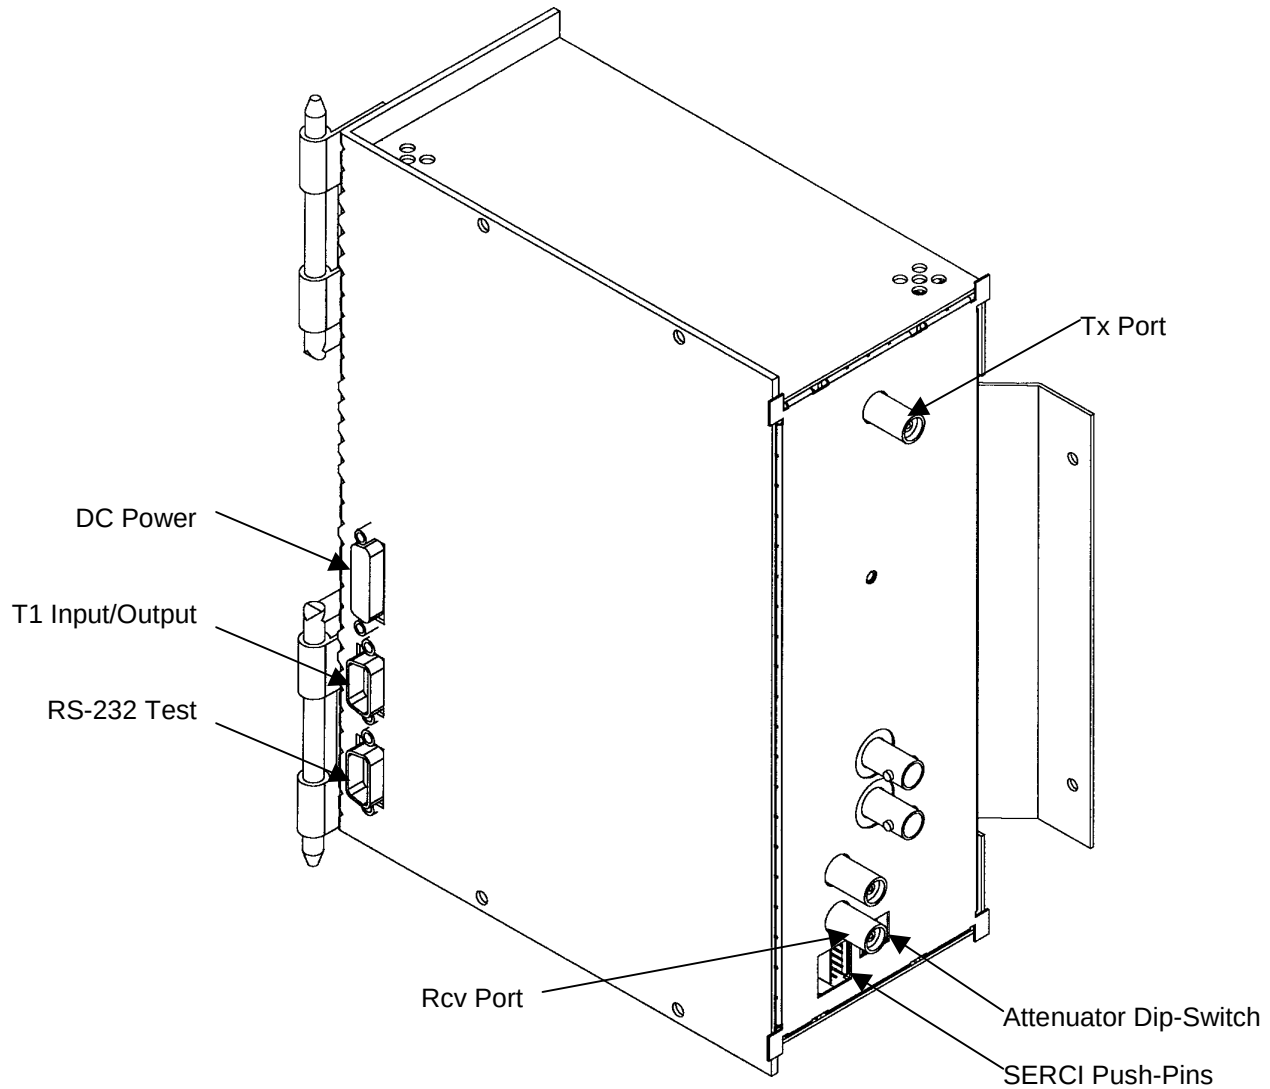

Figure 9-5 Location of Connectors, Push-Pins and Attenuator Dip-Switches on the NIU Radio Unit
- 3) Verify a modem card and a translator module are properly installed in their respective slots in the Radio Unit of the NIU. (Refer to Figure 9-5).
- 4) Connect the RS-232 cable between the COM1 port on the Personal Computer (PC) and the Radio Unit RS-232 Test (DB-9) connector.